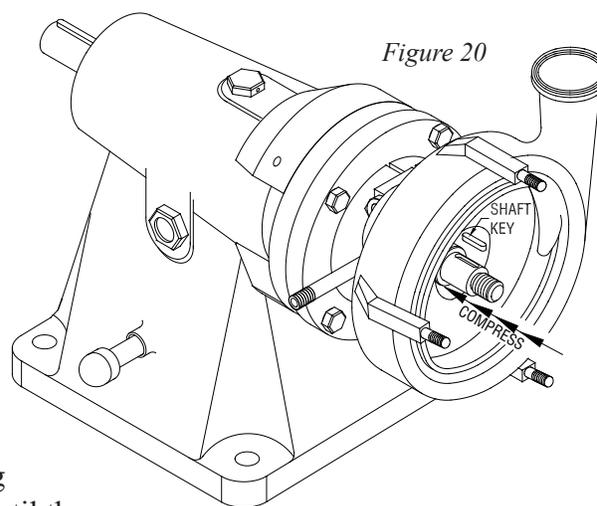

Figure 20
- f) Compress the seal spring (38) by pushing on the front seal driver (40) and lift out the key (**Figure 20**). (You may find it easier to rotate the keyway to the bottom of the shaft, compress the seal spring and let the key drop out.)
- g) Next remove the front seal driver (40) and seal spring (38) by pulling them off the pump shaft (17) and discard them.